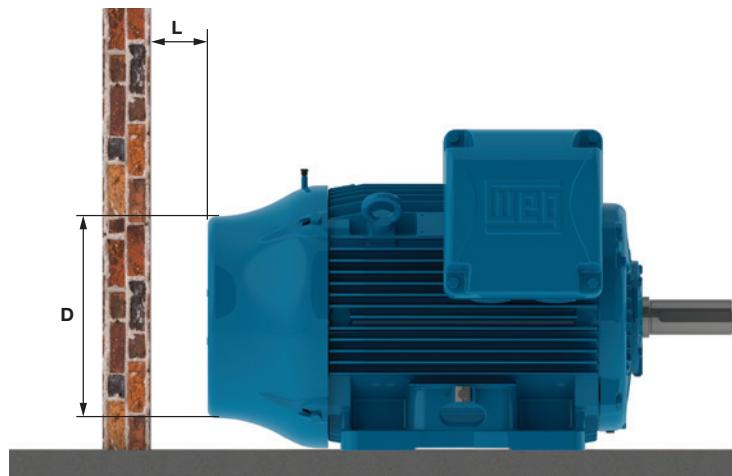

Figure 49 - Minimum clearance to the wall
- Ensure that the air inlet and outlet opening are not blocked. The minimum clearance to the nearest wall (*L*) should be at least $\frac{1}{4}$ of the fan cover diameter (*D*), see Figure 49. The intake air temperature must be at ambient temperature.